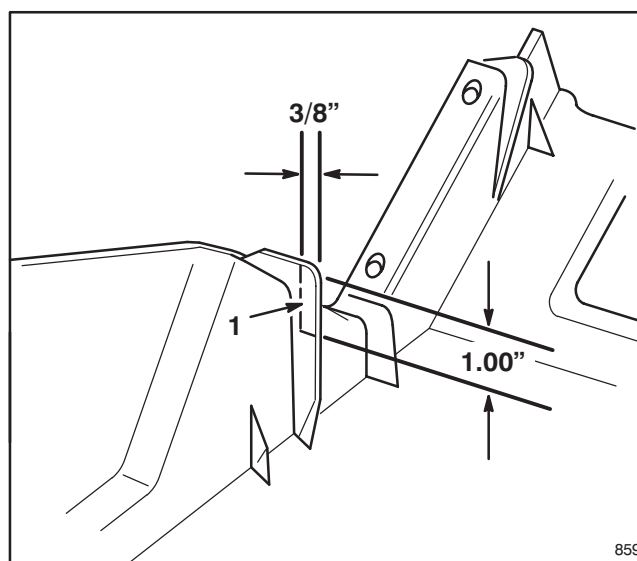

Figure 12
16. Using a sharp knife, trim inside rib of shroud to height of 3/8" and length of 1.00" as shown in Figure 12.